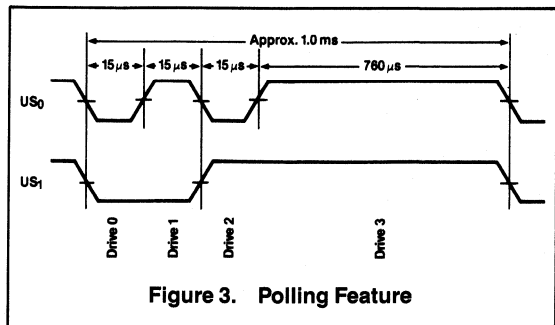

Figure 3. Polling Feature
After reset has been sent to the FDC72C65/FDC72C66, the unit select lines US_0 and US_1 will automatically go into a polling mode. In between commands (and between step pulses in the Seek command) the FDC72C65/FDC72C66 polls all four FDDs looking for a change in the ready line from any of the drives. If the ready line changes state (usually due to a door opening or closing), then the FDC72C65/FDC72C66 will generate an interrupt. When status register 0 (ST0) is read (after Sense Interrupt Status is issued), not ready (NR) will be indicated. The polling of the ready line by the FDC72C65/FDC72C66 occurs continuously between commands, thus notifying the processor which drives are on or off line. Each drive is polled every 1.024 ms except during the Read/Write commands. When used with a 4 MHz clock for interfacing to minifloppies, the polling rate is 2.048 ms. See figure 3.